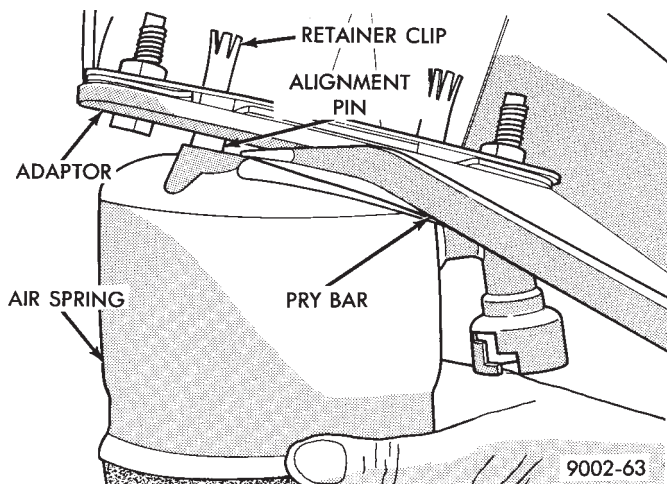

Fig. 20 Pry Assembly Out of Retaining Clips
- (6) Pry assembly down to pull alignment studs through retaining clips (Fig. 20). Remove assembly.